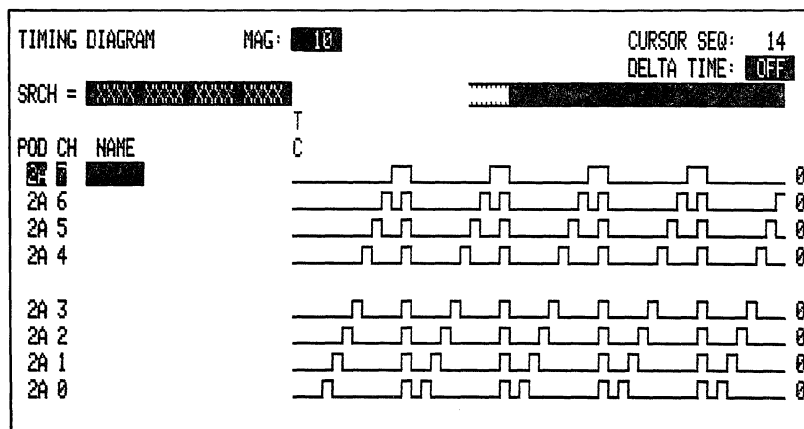

Figure 5-31. 91P16 interrupt test results.
6. When displayed on the Timing Diagram menu, the data acquired from the pattern generator should look like the data shown in Figure 5-31.
A display like Figure 5-31 means the interrupt signal is being properly received and processed. The next steps verify the operation of the inversion of the interrupt signal.
- When acquisition is finished, enter the Timing Diagram menu. The data acquired should look like Figure 5-31.